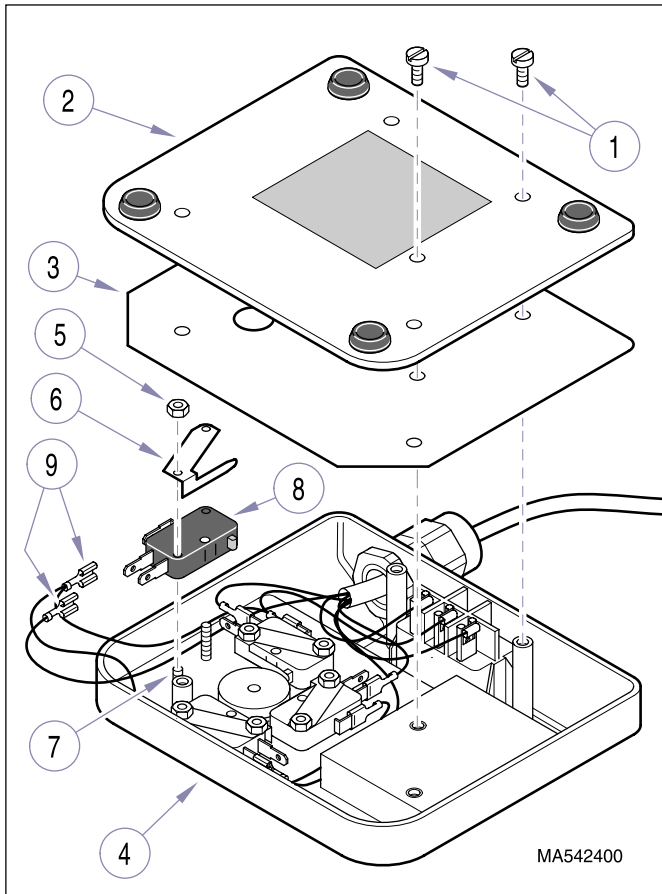

Figure 4-20. Manual Footswitch Removal / Installation
- (1) Unplug chair power cord from wall outlet receptacle.
- (2) Remove five screws (1, Figure 4-20), base plate (2), and insulation (3) from footswitch housing (4).
- (3) Remove two nuts (5) and actuator (6) from two studs (7).
- (4) Pull footswitch (8) off of two studs (7); then tag and disconnect two wires (9) from terminals of footswitch (8).